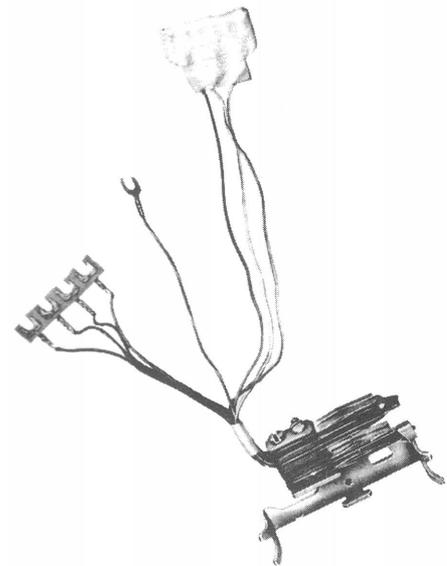

Fig. 5 – P-25E118 Exclusion Switch
2.14 The P-25E118 exclusion switch assembly terminates in wafer strips of spade tipped terminals (Fig. 5). This allows adaption of the exclusion feature to any one of the pickup buttons.